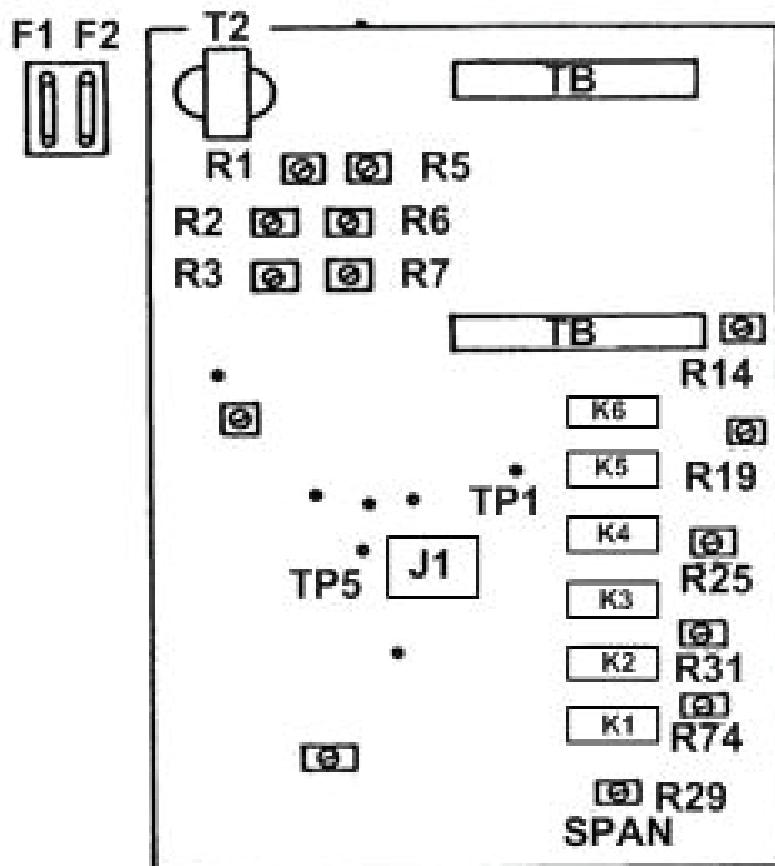

Figure 7. Adjustment locations.
Adjustments in (1) through (3) below are for each TI cell and are to be performed at 15,000 pounds with load cell No. 3 installed. If an indication within limits specified cannot be obtained, adjust R29 SPAN (fig. 7). R29 SPAN affects all three TI cell adjustments. If R29 SPAN is adjusted, repeat steps (1) through (3) below until no further adjustments are necessary.
(1) Loosen six screws on front of TI and remove front cover.
- (2) Rotate **POUNDS** thumbwheel to **15,000** and apply force for **NUL**L indication.
- (3) Adjust R5 (fig. 7) for an indication within limits specified.
- (4) Adjust R6 (fig. 7) for an indication within the limits specified. (R)
- (5) Adjust R7 (fig. 7) for an indication within the limits specified. (R)
- (6) Linearity adjustments:
- (a) Apply a 10,000 pound load to cells, set **POUNDS** thumbwheel to **10,000** and adjust R31 (fig. 7) for null indication (R).
- (b) Apply a 20,000 pound load to cells, set **POUNDS** thumbwheel to **20,000** and adjust R25 (fig. 7) for null indication (R).
- (2) Connect oscilloscope between TP1 (red lead) and TP5 (black lead) (fig. 7). If indication on oscilloscope is not less than 1.5 V p-p, perform **b** (1) below.
- (3) Set **CELL SELECTOR** switch to **CELL 2** position.
- (4) Adjust **ZERO** control for null indication on TI null meter. If indication on oscilloscope is not less than 1.5 V p-p, perform **b** (2) below.
- (5) Set **CELL SELECTOR** switch to **CELL 3** position.
- (6) Adjust **ZERO** control for null indication on TI null meter. If indication on oscilloscope is not less than 1.5 V p-p, perform **b** (3) below.
- (1) Adjust R1 (fig. 7) for minimum waveform amplitude on oscilloscope. **ZERO** control (front panel) must be adjusted simultaneously to keep the meter at 0 indication.
- (2) Adjust R2 (fig. 7) for minimum waveform amplitude on oscilloscope. **ZERO** control (front panel) must be adjusted simultaneously to keep the meter at 0 indication (R).
- (3) Adjust R3 (fig. 7) for minimum waveform amplitude on oscilloscope. **ZERO** control (front panel) must be adjusted simultaneously to keep the meter at 0 indication (R).
Adjustments in (1) through (3) below are for each TI cell and are to be performed at 50,000 pounds with load cell No. 4 installed. If an indication within limits specified cannot be obtained, adjust R29 SPAN (fig. 7). R29 SPAN affects all three TI cell adjustments. If R29 SPAN is adjusted, repeat (1) through (3) below until no further adjustments are necessary.
(1) Adjust R5 (fig. 7) for an indication within limits specified (R).
(2) Adjust R6 (fig. 7) for an indication within limits specified (R).
(3) Adjust R7 (fig. 7) for an indication within limits specified (R).
(4) Linearity adjustments:
(a) Apply a 10,000 pound load to cells, set **POUNDS** thumbwheel to **10,000** and R31 (fig. 7) for a null indication (R).
(b) Apply a 20,000 pound load to cells, set **POUNDS** thumbwheel to **20,000** and adjust R25 (fig. 7) for a null indication (R).
(c) Apply a 30,000 pound load to cells, set **POUNDS** thumbwheel to **30,000** and adjust R19 (fig. 7) for a null indication (R).
(d) Apply a 40,000 pound load to cells, set **POUNDS** thumbwheel to **40,000** and adjust R14 (fig. 7) for a null indication (R).